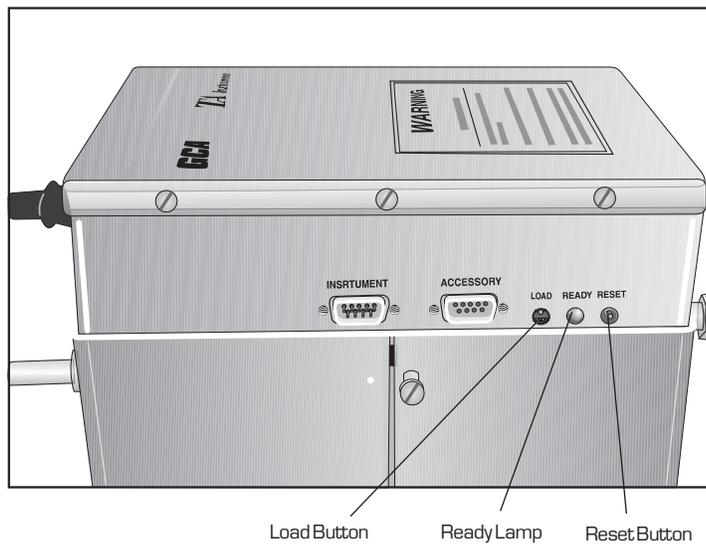

Figure 2.9
7. After the software has been successfully loaded, press the Reset button on the side of the GCA top section, see Figure 2.9 for its location. This will retrieve the calibration information used for the GCA and reset the accessory. (You may need to turn the power to the GCA off, and then on again, if the Reset is not successful.)